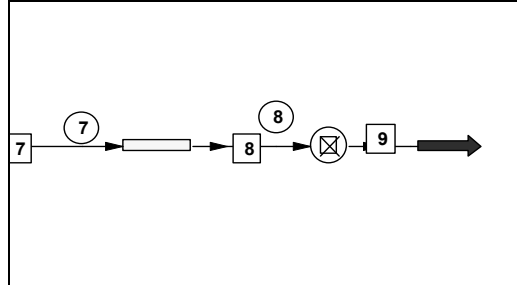

Figure 11-59: Insertion of feedback controller
2. Click near the existing stream to place a controller icon on the flowsheet. The stream automatically re-routes through this icon, as shown in Figure 11-59.